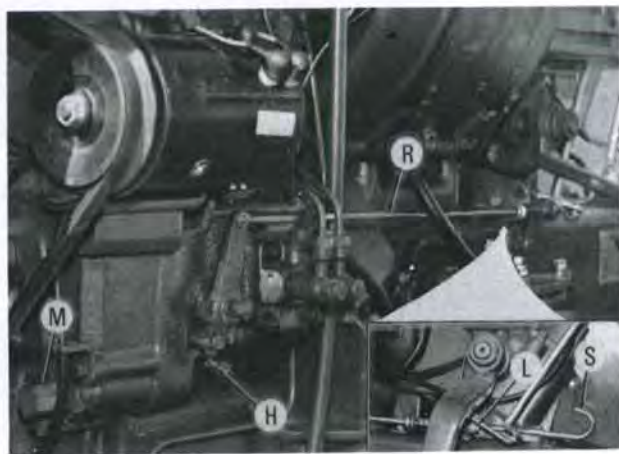

Fig. 57—Installed view of Model L210 injection pump and governor showing external points of adjustment.
57. GOVERNOR LINKAGE ADJUSTMENT. High speed adjustment screw (H—Fig. 57) and maximum fuel limit stop (smoke stop) (M) are sealed adjustments and should not normally be changed unless governor is overhauled or trouble exists.